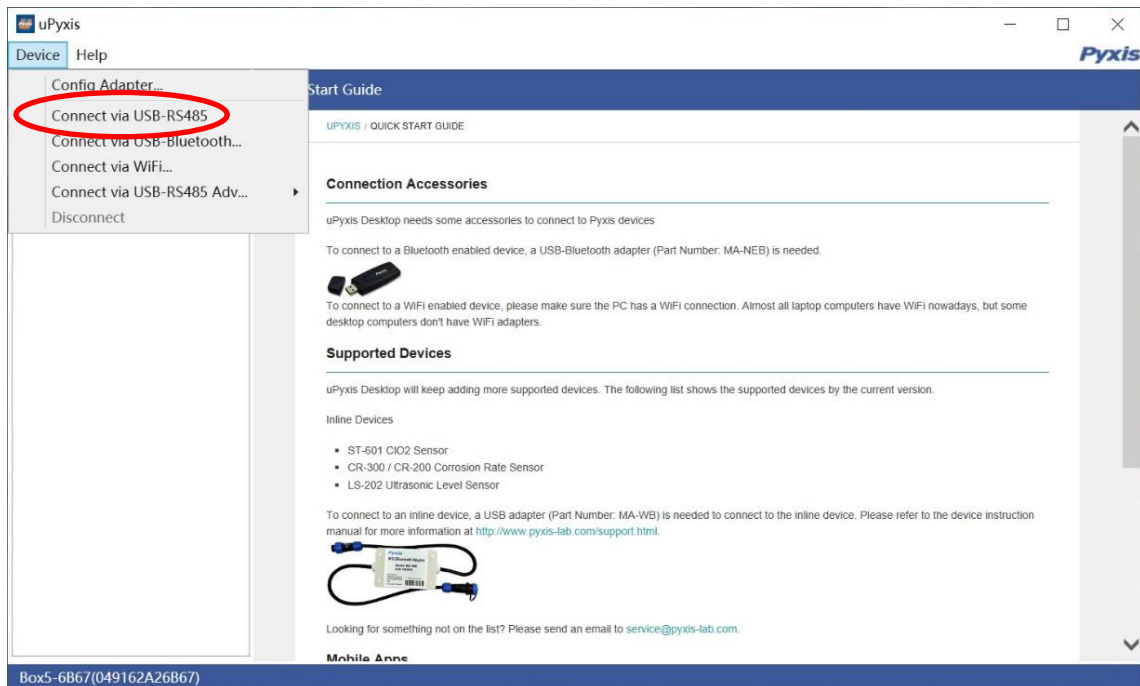

Figure 15 - Connection Options
- 6) Select Connect via USB-RS485 (*Figure 15*).